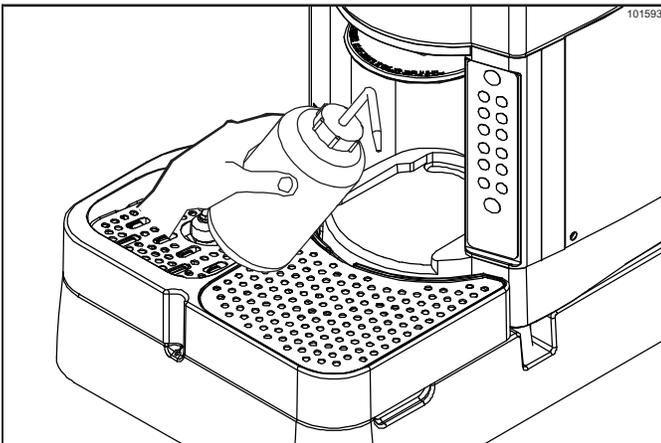

Figure 6-16
23. Thoroughly flush the dispensing area with 4 oz. (118 ml) of cleaning/sanitizing solution. (See Figure 6-16.)